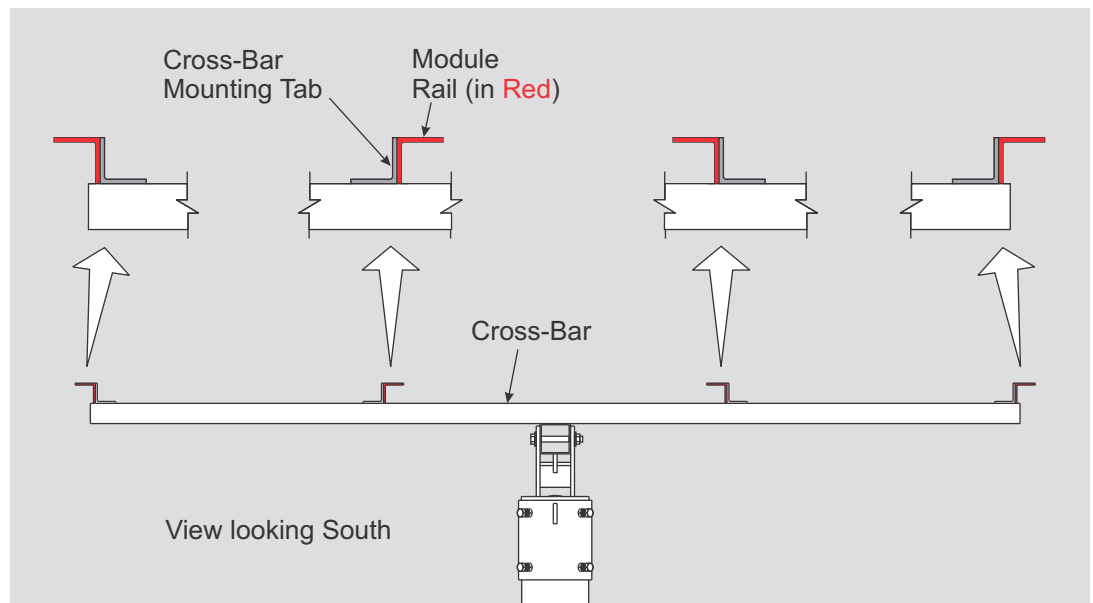
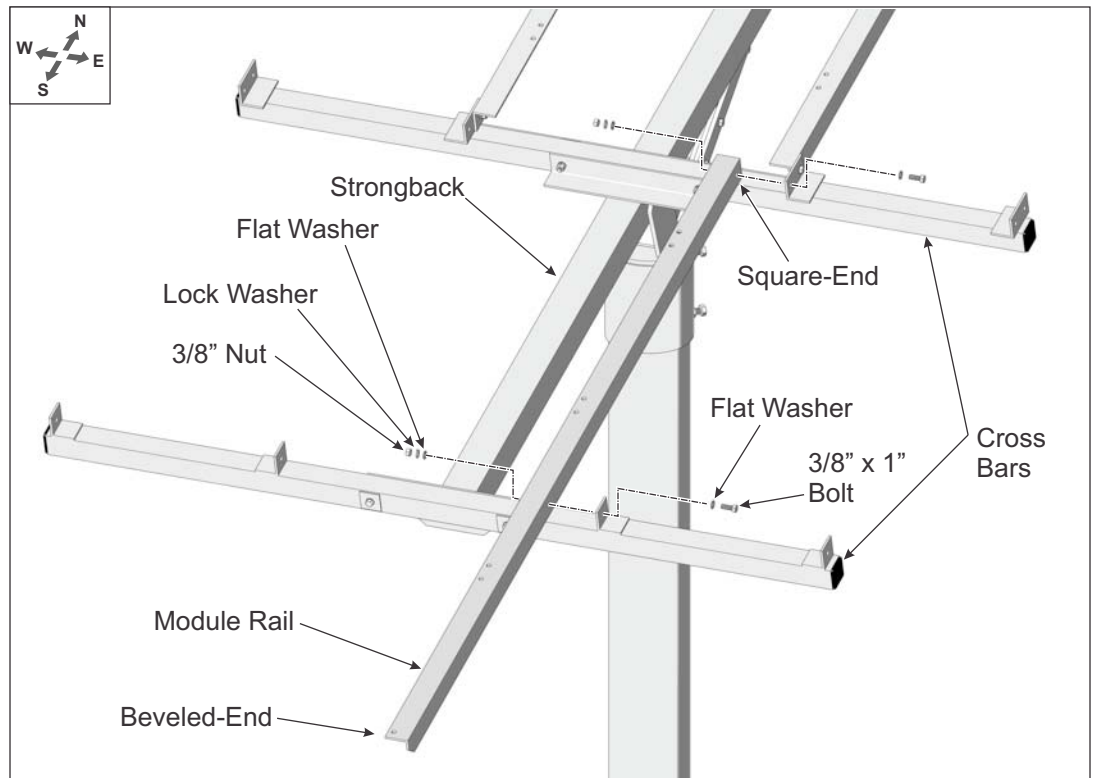
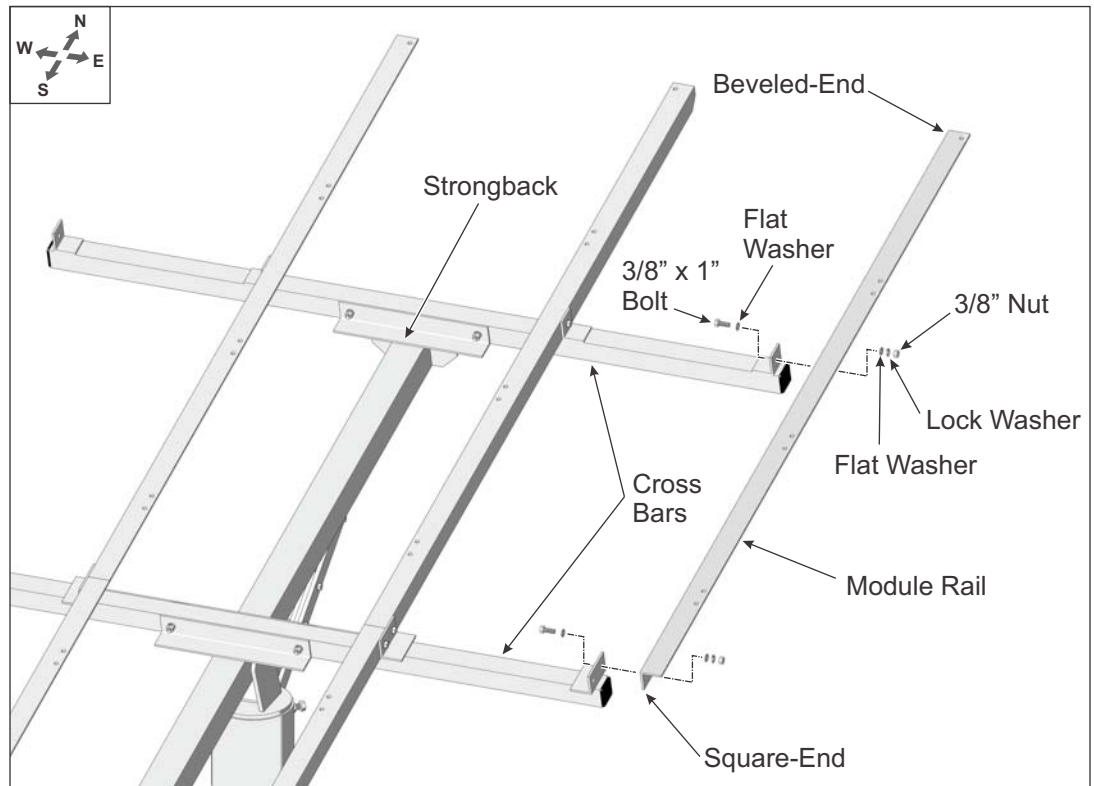

Figure 4-1: Orientation of Module Rails to Cross-Bars
Figure 4-2: Installing the Northern-most Inboard Module Rails to Cross-Bars
Figure 4-4: Installing the Northern-most outboard Module Rails to Cross-Bars
Additionally, Module Rails are installed differently depending on whether they are mounted inboard or on the outer edges of the Cross-Bars. (See Figure 4-1)
- Referring to Figure 4-1 for orientation of the inboard Module Rails, position the first section of Module Rail (with its angle cut end positioned north) at the northern most position on the Cross-Bars. Align the Module Rail mounting holes with the holes of the Cross-Bar mounting tabs and secure with 3/8" x 1" bolts and hardware. Finger-tighten for now. (See also Figure 4-2)
- A. Referring to Figure 4-1 for orientation of the outboard Module Rails, position the first section of Module Rail (with its angle cut end positioned north) at the northern most position on the Cross-Bars. Align the Module Rail mounting holes with the holes of the Cross-Bar mounting tabs and secure with 3/8" x 1" bolts and hardware. Finger-tighten for now. (See Figure 4-4)